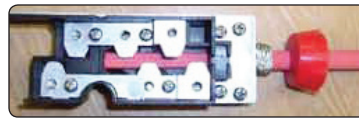

Figure 3b
**Note:** Observe the cable passing into the jaws of the cutting blades in **Figure 3b**.